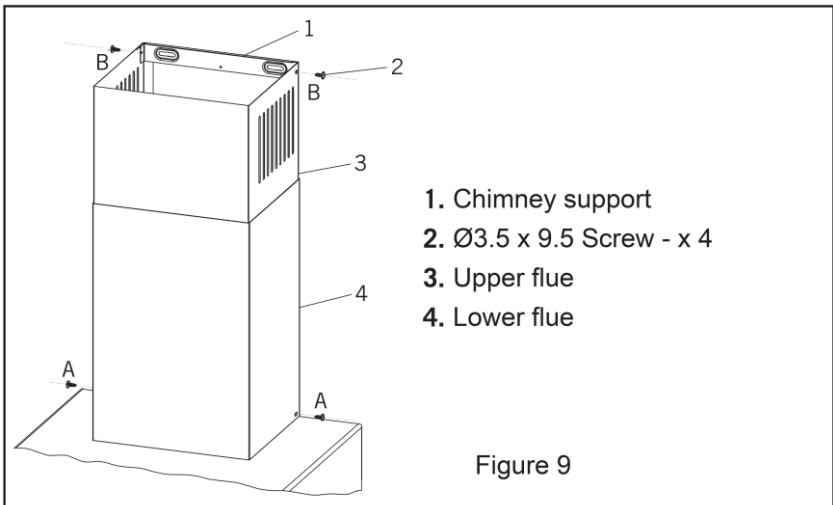

Figure 9
- Place the assembly between the main body of the hood and the ceiling, fix the lower part of the chimney using screws **A** (3.5 x 9.5 mm), see figure 9.
- Then fix the upper part of the chimney to support **1** using screws **B** (3.5 x 9.5 mm), see figure 9.